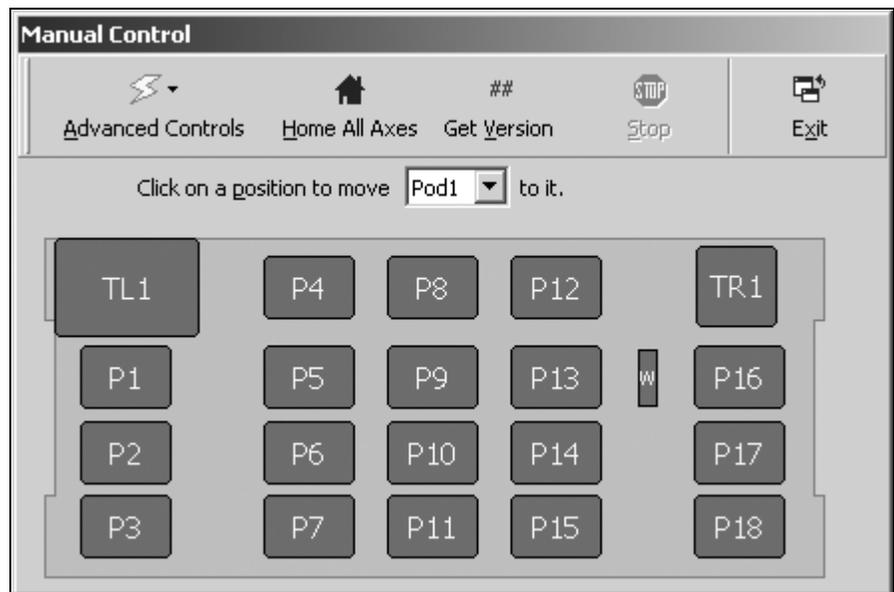

Figure 3-16. Manual Control
1. Choose **Instrument>Manual Control**. **Manual Control** appears (Figure 3-16). Here is where you can choose to which position you want to move a pod.